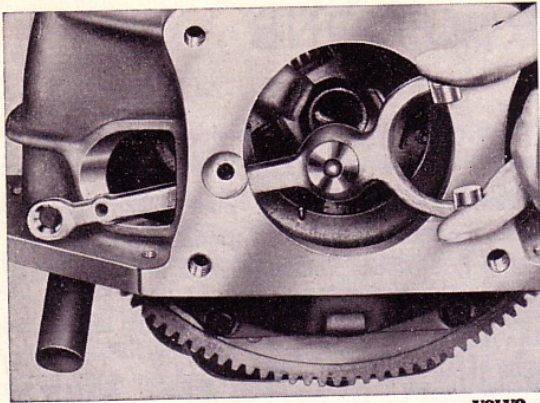

Fig. 8. Removing the clutch release fork
3. Remove the clutch release bearing (25).
5. Remove the clutch release fork (33) by first slackening the ball joint on the inside a few turns with a 17 mm (21/32") box spanner and then holding it still while unscrewing the bolt on which the ball joint fits. Then turn the release fork 1/2 a turn and remove it to the rear, see Fig. 8.